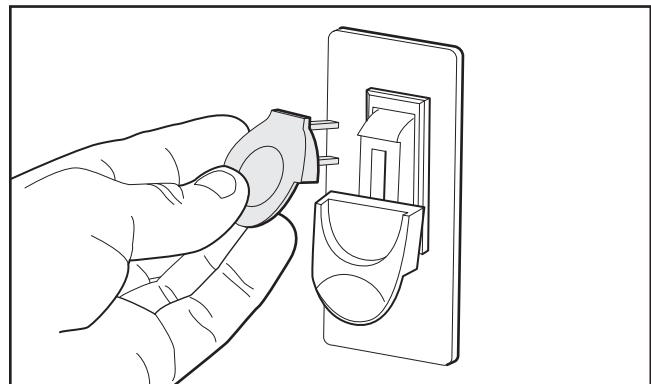

Figure 28. Removing switch key from paddle switch.
5. Remove the switch disabling key, as shown in **Figure 28**.